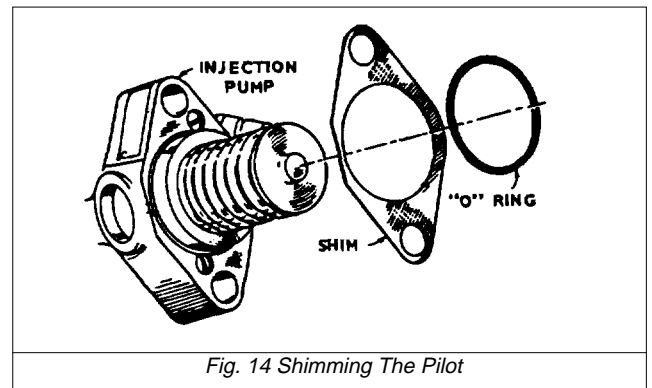

Fig. 14 Shimming The Pilot
- (1) Slide the shim or shims (Using proper thickness of shims for correct timing) over the pilot until they are flat on the pump flange (Fig. 14).
- (2) Dip the Seal ("O" ring) in engine lubricating oil.
- (3) Slide the seal over the pilot until tight against the shim or shims.